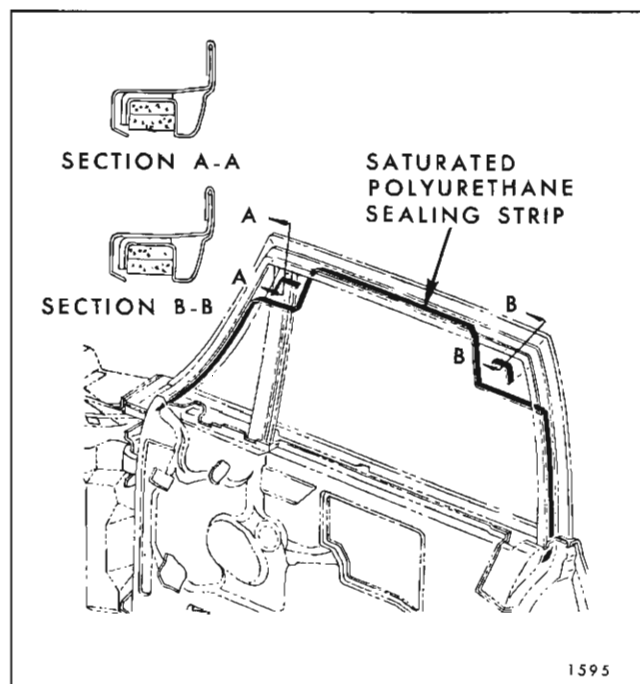

Fig. 1D45—Front Door Window Glass Run Channel Sealing
6. To install, reverse removal procedure. Prior to installation inspect run channel clips and saturated polyurathane foam sealing strips in door upper frame (Fig. 1D45). Reform distorted clips to insure adequate retention when installed. Replace damaged
2. On styles with ventilator lower moldings, remove glass run channel outer strip assembly attaching screws (Fig. 1D43) and remove strip assembly.